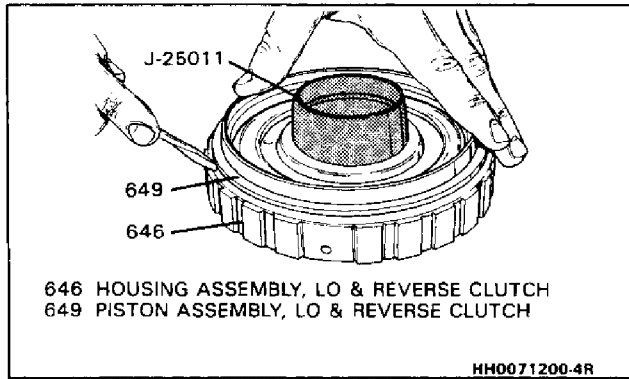

Figure 50 Installing - Lo and Reverse Clutch Piston
- Clutch apply ring (650) for cracks or distortion
- Piston (649) for wear, cracks, or damage
- Spring retainer (652) for damage
- Clutch plates (626):
**Assemble (Figures 50 and 51)****Tools Required**